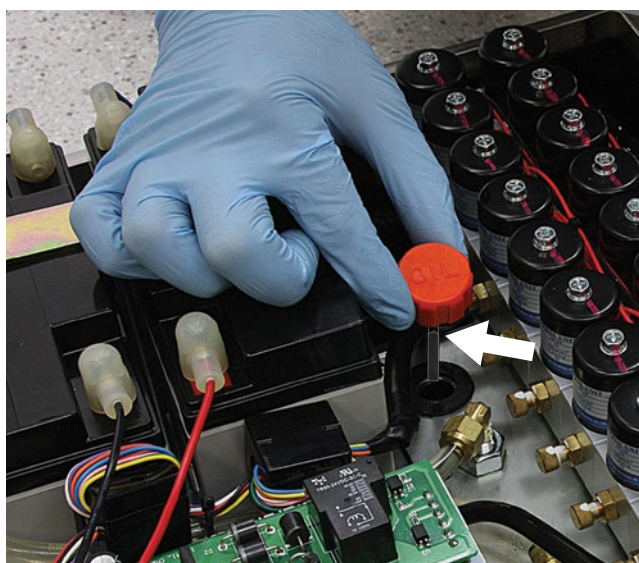

Figure 26. Oil Reservoir
1. Remove four (4) screws that secure the service access cover to the base and remove the service access cover.
2. Remove the filler cap from the oil reservoir by firmly lifting straight up. Do not attempt to turn the cap as it is a notched pressure-fit configuration (Figure 26).